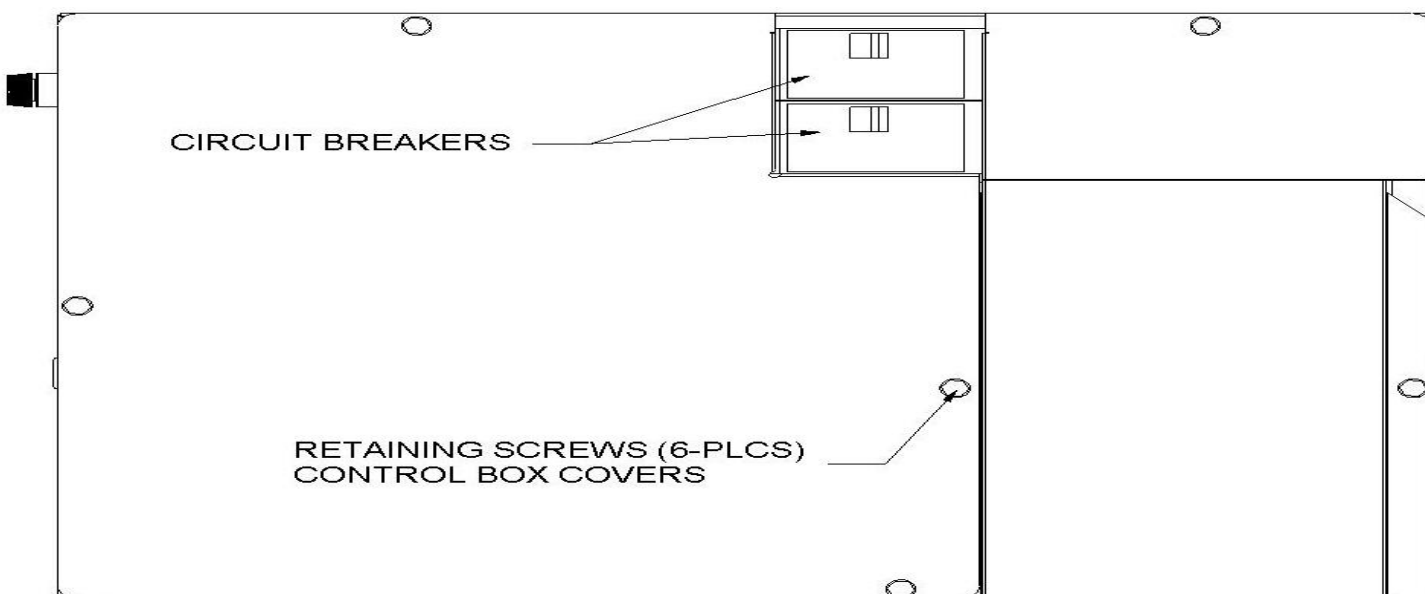

Figure 14: Control Box Cover and Circuit Breaker Location – Dual Element Box
7. If you are using a single circuit for a 12kW, 15kW or 20kW model you will need to install a black jumper wire from the L1 terminal on circuit breaker #1 to the L1 terminal on circuit breaker #2 and a white or red jumper wire from the L2 terminal on circuit breaker #1 to the L2 terminal on circuit breaker #2. Refer to Figure 14 for circuit breaker locations.
For personal safety be sure to turn the electrical power “OFF” at the main circuit panel (Home Circuit Breaker Box) and at the control box circuit breakers before attempting any service or maintenance operations. Homeowners should never attempt to perform any maintenance which requires opening the furnace control box door. Refer to Figure 14.